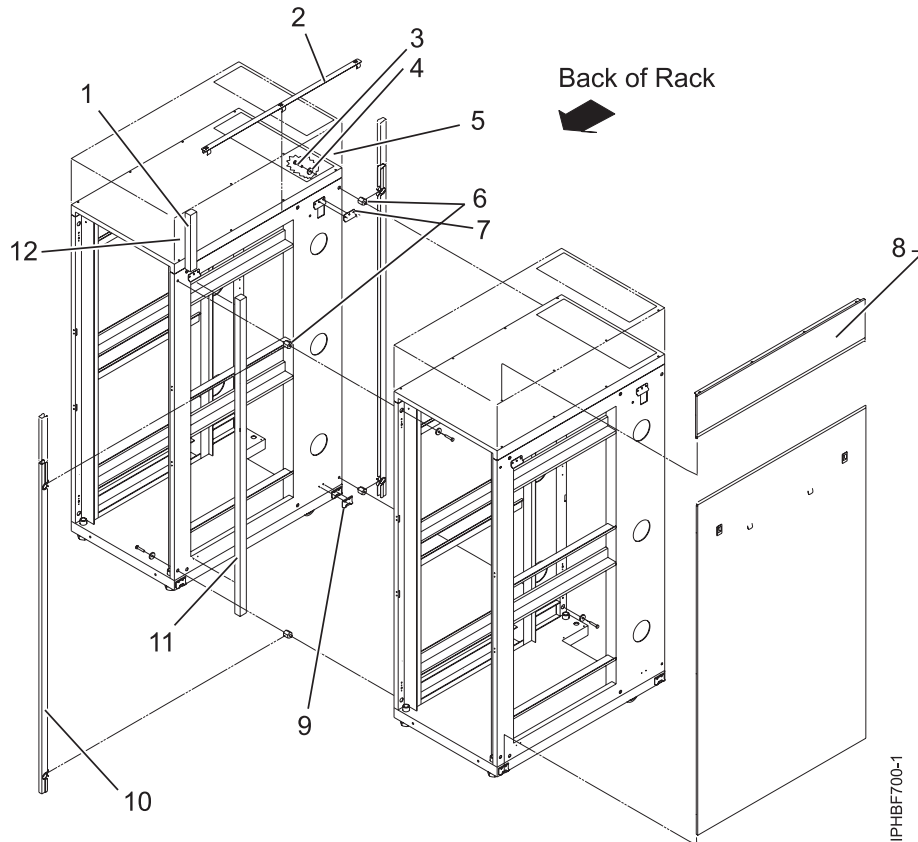

Figure 32. Removing the side panels, Z and J brackets, and installing standoffs and long foam to connect multiple racks
4. Install the first two standoffs in the upper-left and lower-right corners of the first rack as shown in Figure 32 on page 44.
5. Install the second two standoffs in the upper-left and lower-right corners of the second rack as shown in Figure 32 on page 44.
6. Attach the long foam as shown in Figure 32 on page 44. For a model T42 rack, join the short foam to the end of the long foam, and adhere it to the frame length of the rack.